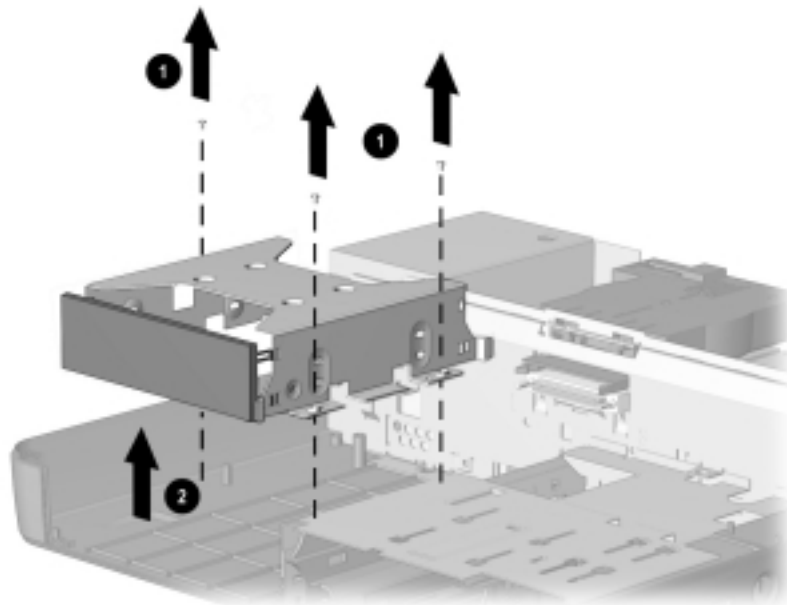

Figure 5-14. Removing the Bezel Cage
6. Remove the three screws ❶ that secure the bezel cage to the base cover (Figure 5-14).
7. Lift the bezel cage out of the base cover ❷.